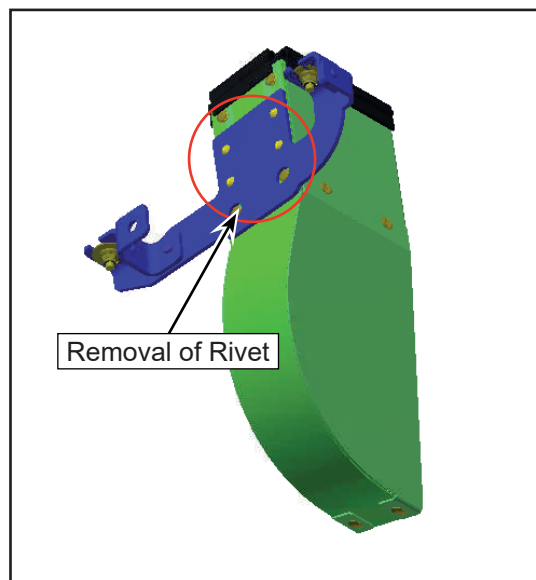

Figure 3 - Removal of Original Rivet
- 1.8. Drill out and remove the original rivet (see figure 3).